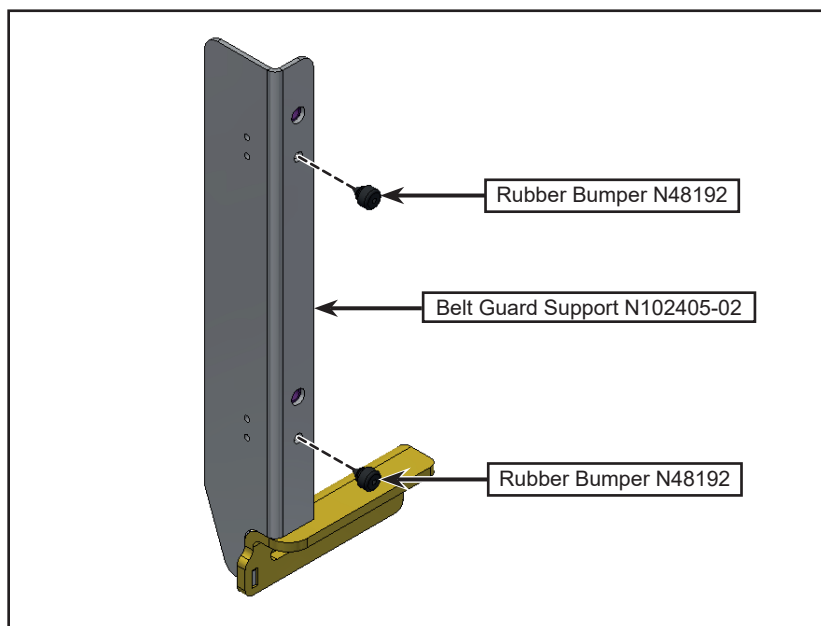

Figure 8 - Installation of Rubber Bumper
- 1.10. Install rubber bumper on the support assembly belt guard (see figure 8).